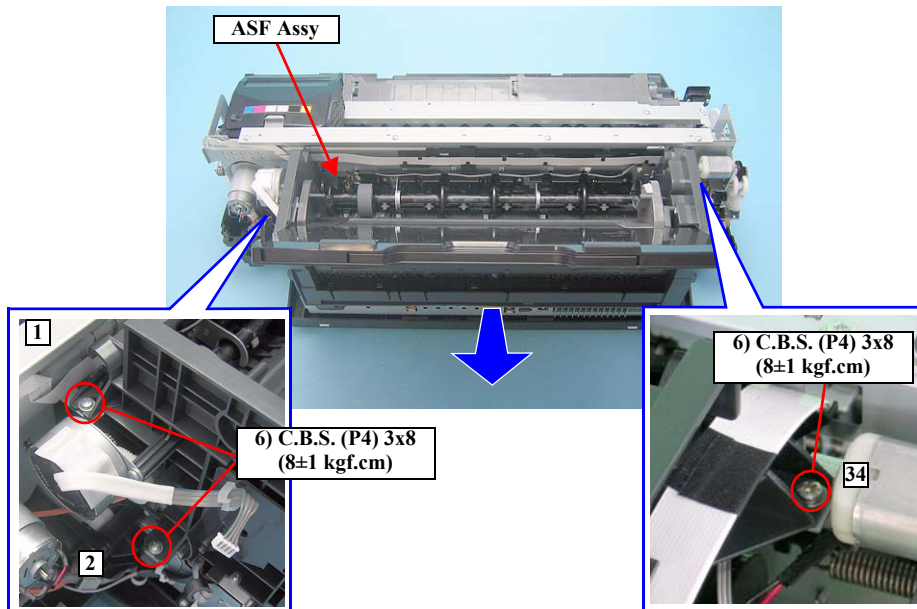

Figure 4-32. Removing the ASF Assy
- Tighten the screws in the order shown in Figure 4-32.